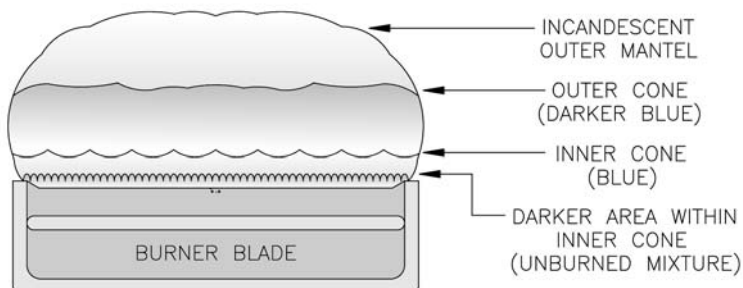

Figure 15
- 10 MAIN BURNER FLAMES should have a clearly defined inner cone, see Figure 15, with no yellow tipping. Orange-yellow streaks caused by dust should not be confused with true yellow tipping.